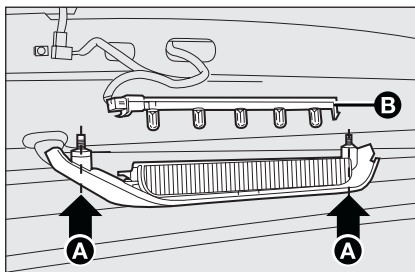

fig. 30
- ☐ slacken the two fastening screws **A**-fig. 30;